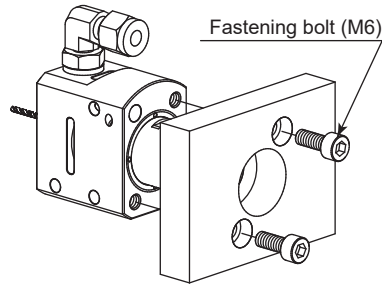

Fig. 19
- (1) Insert the spindle body housing (diameter  $\phi$  26 mm) section into the fixed base of the machine tool.
- (2) Secure the spindle through the mounting holes (2 locations) using the fastening bolts (M6). (Fig. 19)